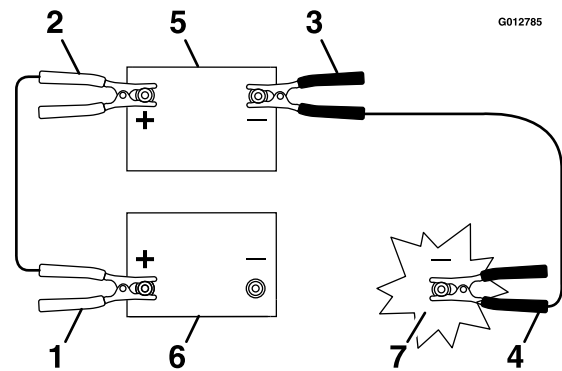

Figure 47
3. Connect the positive (+) cable to the positive (+) terminal of the discharged battery that is wired to the starter or solenoid as shown in Figure 47.